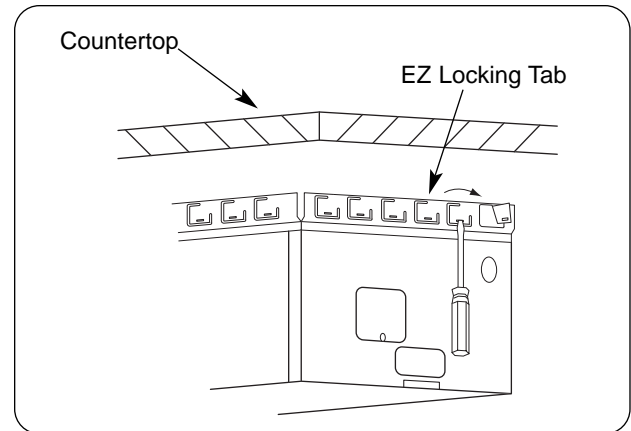

Figure 4. EZ Locking Tabs
5. Use a screwdriver to rotate the EZ locking mounting system on the Modular Built-In Heated Well outward, to secure the unit from the underside of the countertop. Twist as many tabs as needed to secure unit to the countertop. (See Figure 4.)